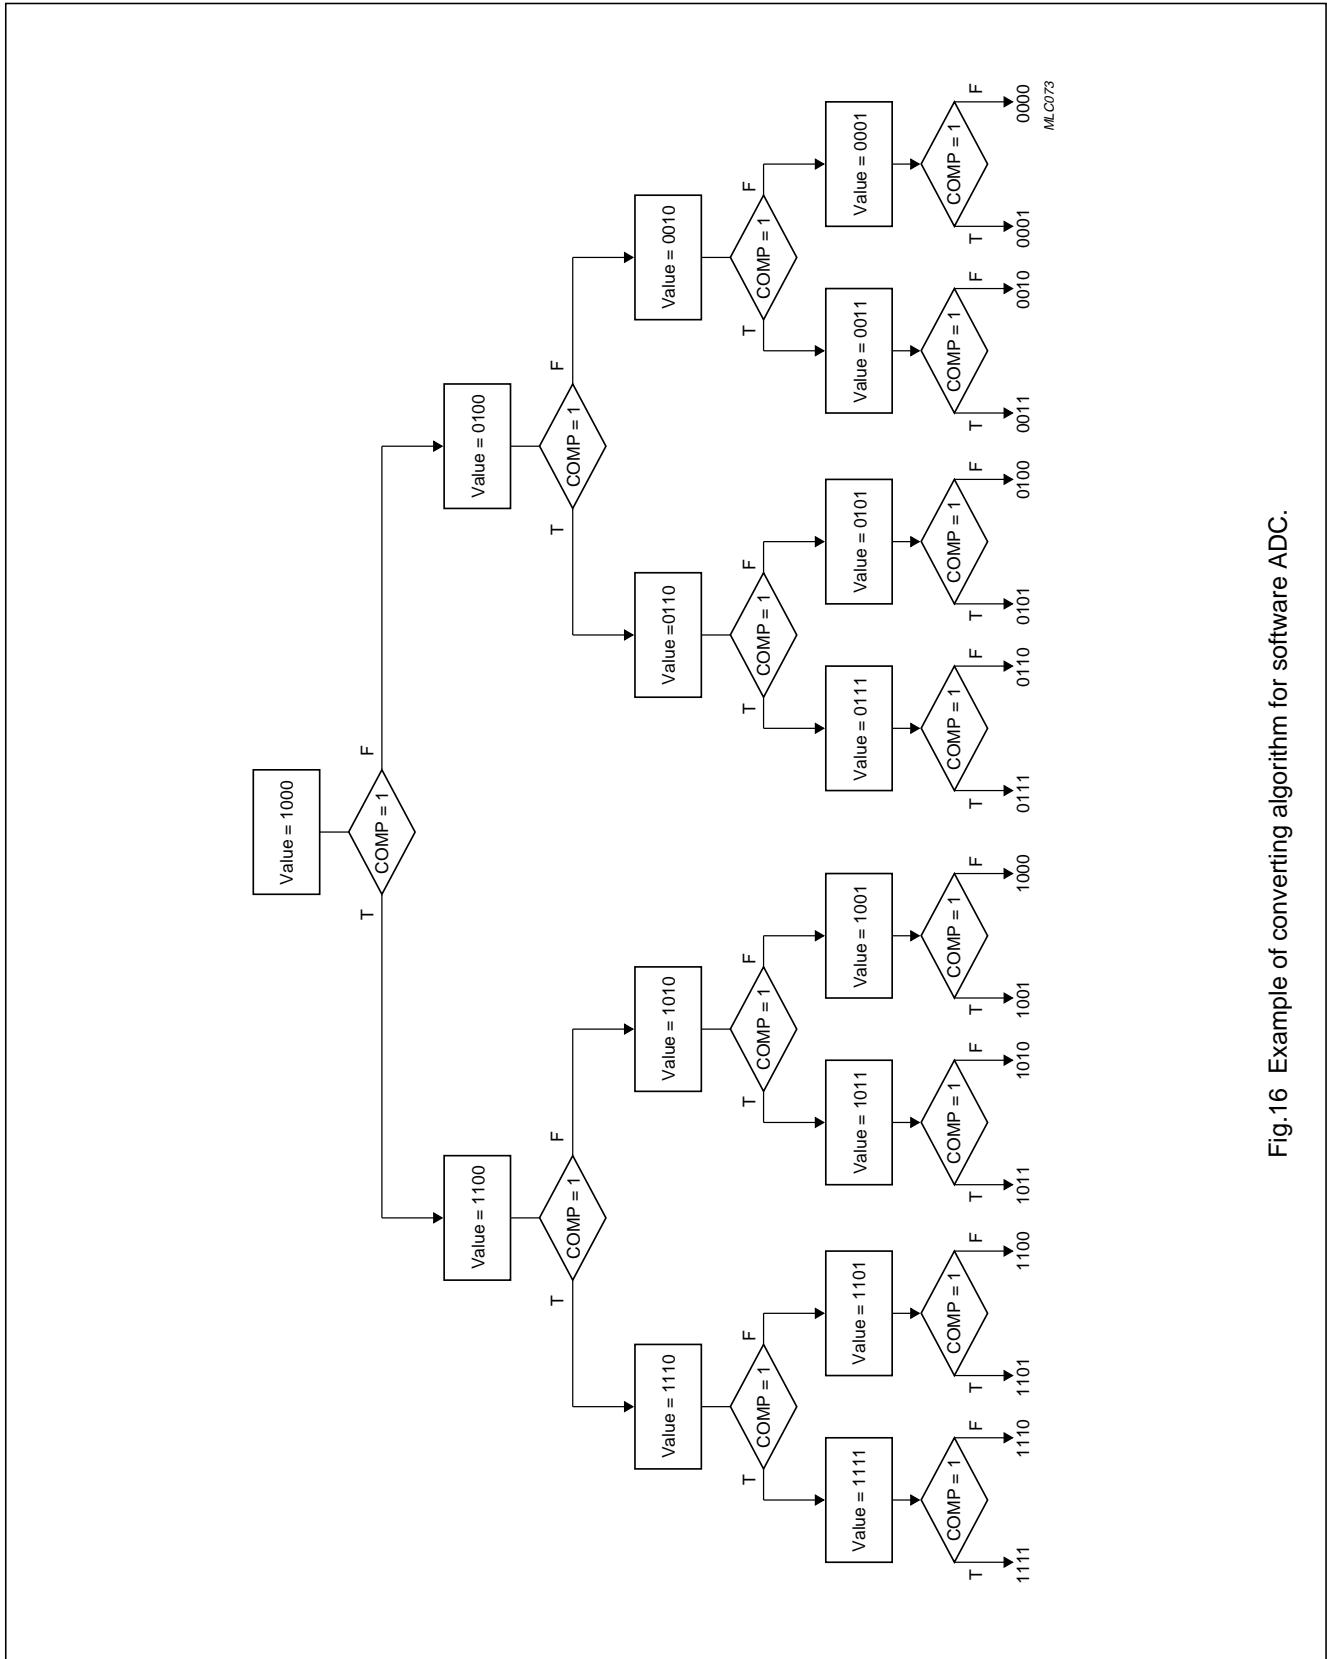

Fig.16 Example of converting algorithm for software ADC.
There are many algorithms available to achieve the ADC conversion. The algorithm described below and shown in Fig.16 uses an iteration process.
- 9. The operations detailed in 6, 7 and 8 above are repeated and each time the digital input to the DAC is changed accordingly; as dictated by the state of the COMP bit. The complete process is shown in Fig.16. Each time the DAC input is changed the number of values which the analog input can take is reduced by half. In this manner the actual analog value is honed into. The value of the analog input ( $V_A$ ) is determined using Equation (4):